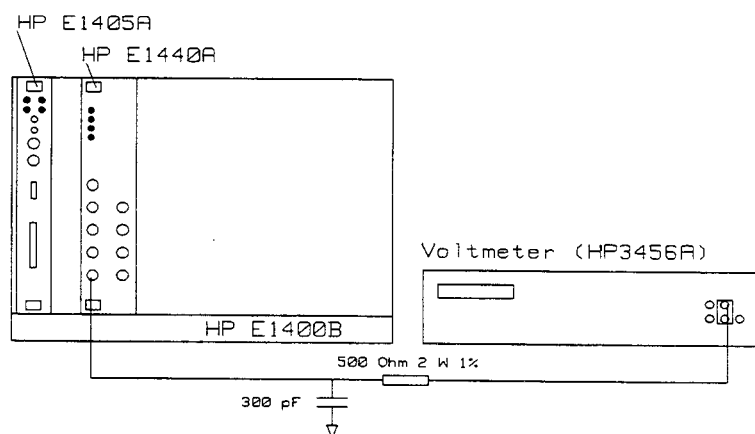

Figure C-8. High voltage sinewave accuracy test set-up.
14. **Sine wave Test.** Connect the HP E1440A signal output to the AC voltmeter as shown in Figure C-8.